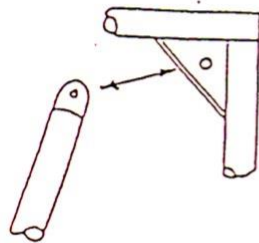

FIG 3
- g) Tongue and gusset connections as in fig 3 may only be used in the diagonal brace, and must be made from a minimum of 6mm plate. Bolts used to secure such joints must be minimum 12mm diameter high tensile.